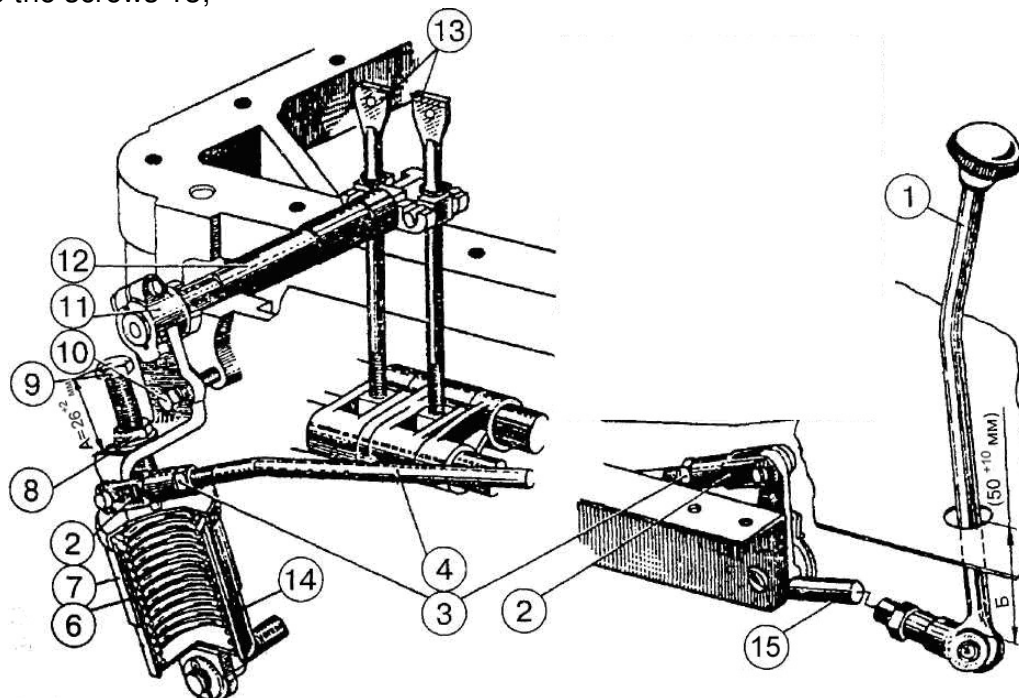
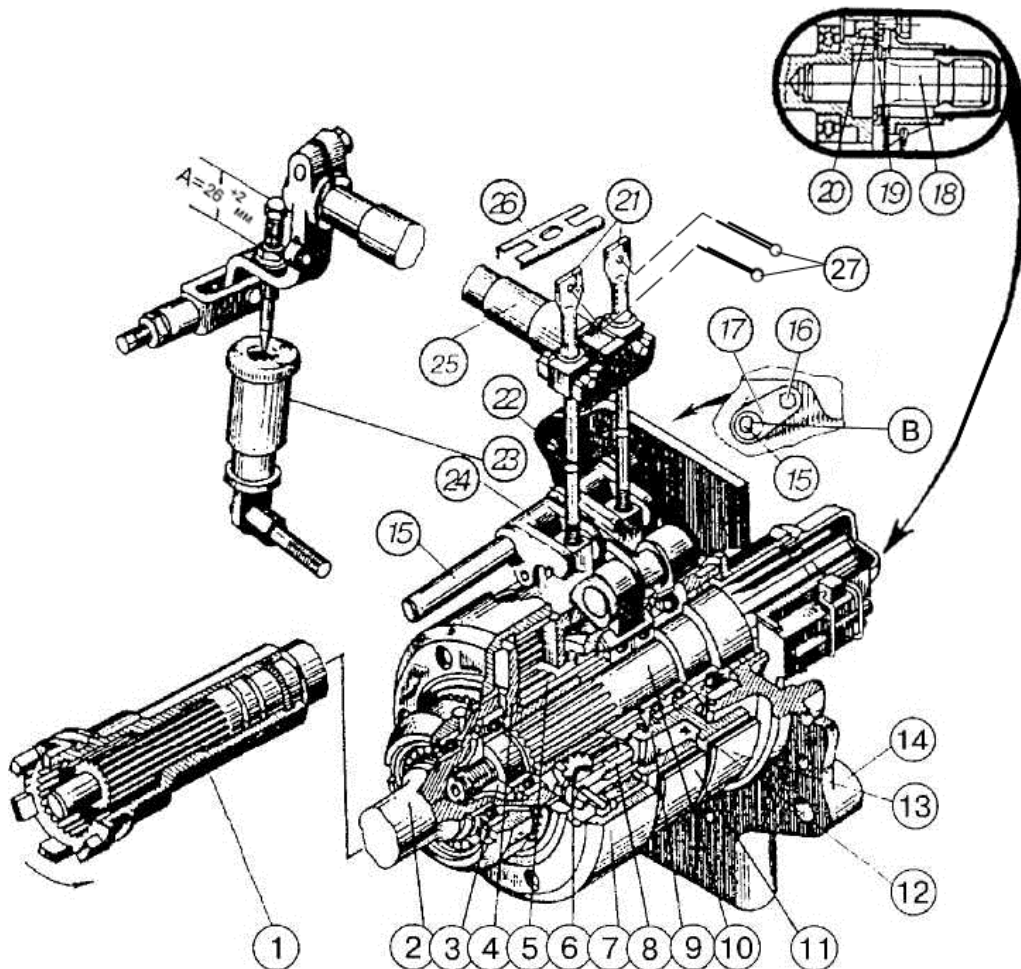

Fig. 1 Rear PTO control:
Fig. 2 Rear PTO planetary gear:
1. Set the eccentric axle 15 to its initial position so that the flat "C" (Fig. 2) be at the right side vertically and fasten it with the lock bar 17 and bolt 16.
2. Disconnect the rod 4 (Fig. 1);
6. Remove the lock bar 26 (Fig. 2), screw in turn the adjusting screws 21 to a torque of 8 to 10 N·m, then unscrew each screw by two turns, at that screw the screws so that the screw heads be parallel to the tractor centerline;
10. Set the rod 4 (Fig. 1) changing the length of the rod 4 and arm 15 adjust the dimension "B" (50^{+10} mm).
After adjustment, install the lock bar 26 and splints 27 (Fig. 2) on the adjusting screws 21, the rear axle hatch cover, lock the rod 4 and arm 15 (Fig. 1) as well as the bolt 9.
After several external readjustments, the eccentric axle 15 (Fig. 2) takes the left-most position (the flat "B" is on the left vertically), which indicates that no more reserve of external adjustment is available. In such a case, set the eccentric axle to initial position by rotating it counter-clockwise (the flat is on the right vertically), after that perform adjustments as described for PTO control adjustment for assembly by manufacturer or PTO repair.
When adjustment is correct, the lever 1 (Fig. 1) in the ON position must be at least 50 mm away from the cab floor (dimension "B").
On tractors of earlier make, the PTO external readjustment mechanism may not be available (pos. 15, 16, 17, Fig. 2). In such a case, adjust as specified above for adjustment of PTO control after repair or in assembly by manufacturer. On small-cab tractors, the dimension "B" is 50 to 60 mm. PTO brake efficiency, absence of slipping depends only on the spring mechanism and first of all on